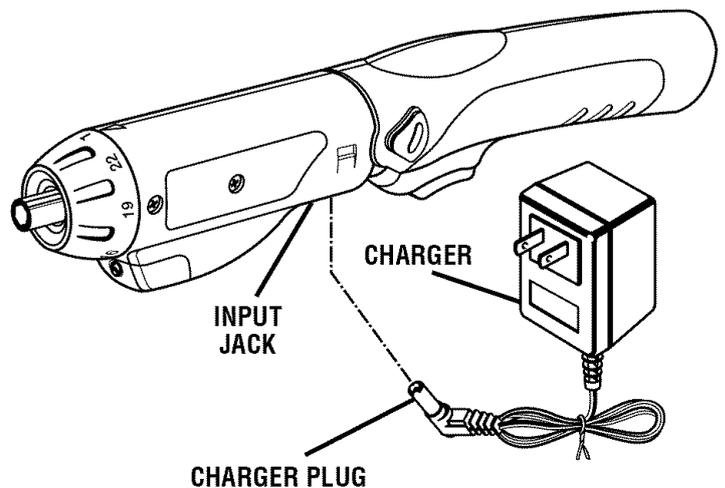

Fig. 3
See Figure 3.
- Insert charger plug into back of charging stand arranging wire and plug as shown in Figure 3.
- Drill two (2) pilot holes then insert the two (2) wall anchors provided.
- Secure charging stand with the two (2) screws provided.